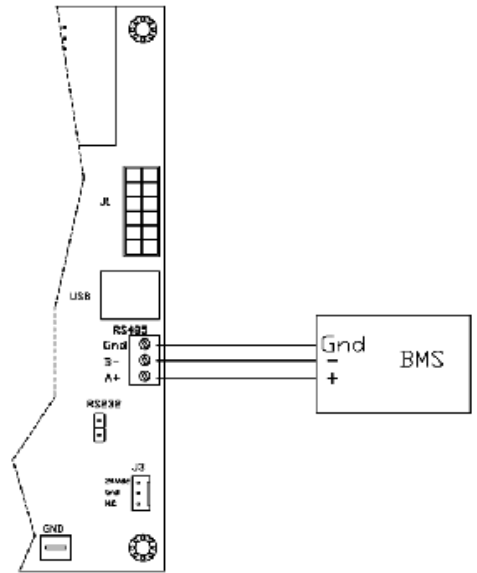

Figure 46-1. Modbus RS485 Wiring
- 1) Wire to the RS-485 port, following Figure 46-1.
- 1) Attach protocontroller into upper right hand corner of main pc board. The ethernet connection should be going to the inside of the board. (See Figure 46-1) Make sure that all pins are seated properly and making a good connection.
- 2) Land two-wire BMS system to wire terminal on protocontroller. (See Figure 46-1)